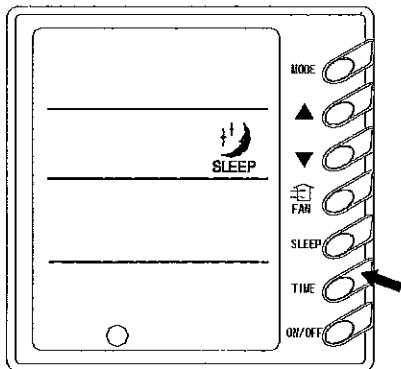

Fig 5
4) Sleep Function Setting (Figure 5)